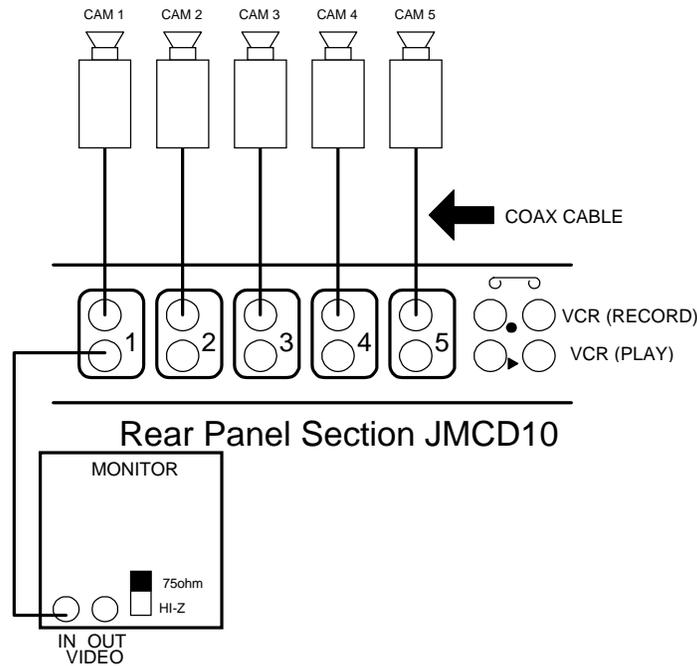

Figure 1.3 Terminating The Video Signal With A 75ohm Load - JMCD10
- 1.2 If a camera is looped through from the lower connector to another device, the unit automatically switches to unterminated High Z. See figures 1.3 or 1.4 depending on the model.